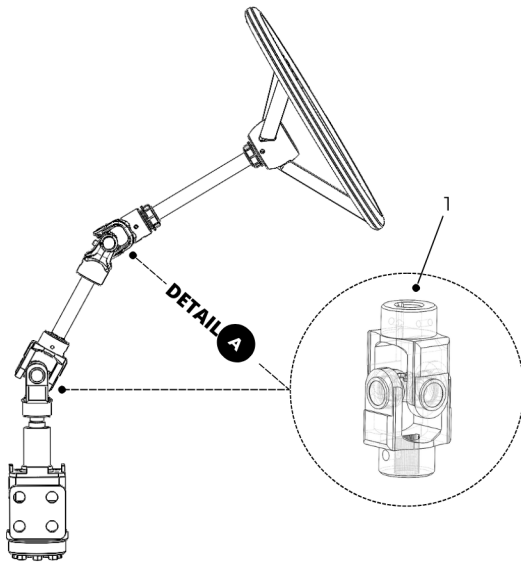

Figure 30. Universal Joint Inspection (Seated Version).
1. Inspect the universal joint (1) and the four tie rods ends (2) for (See Figures 30 and 31):
- Steering shafts (4). (See Figure 30)
Lubricate the grease fittings of the following components (See Figures 30, 31 and 32) :